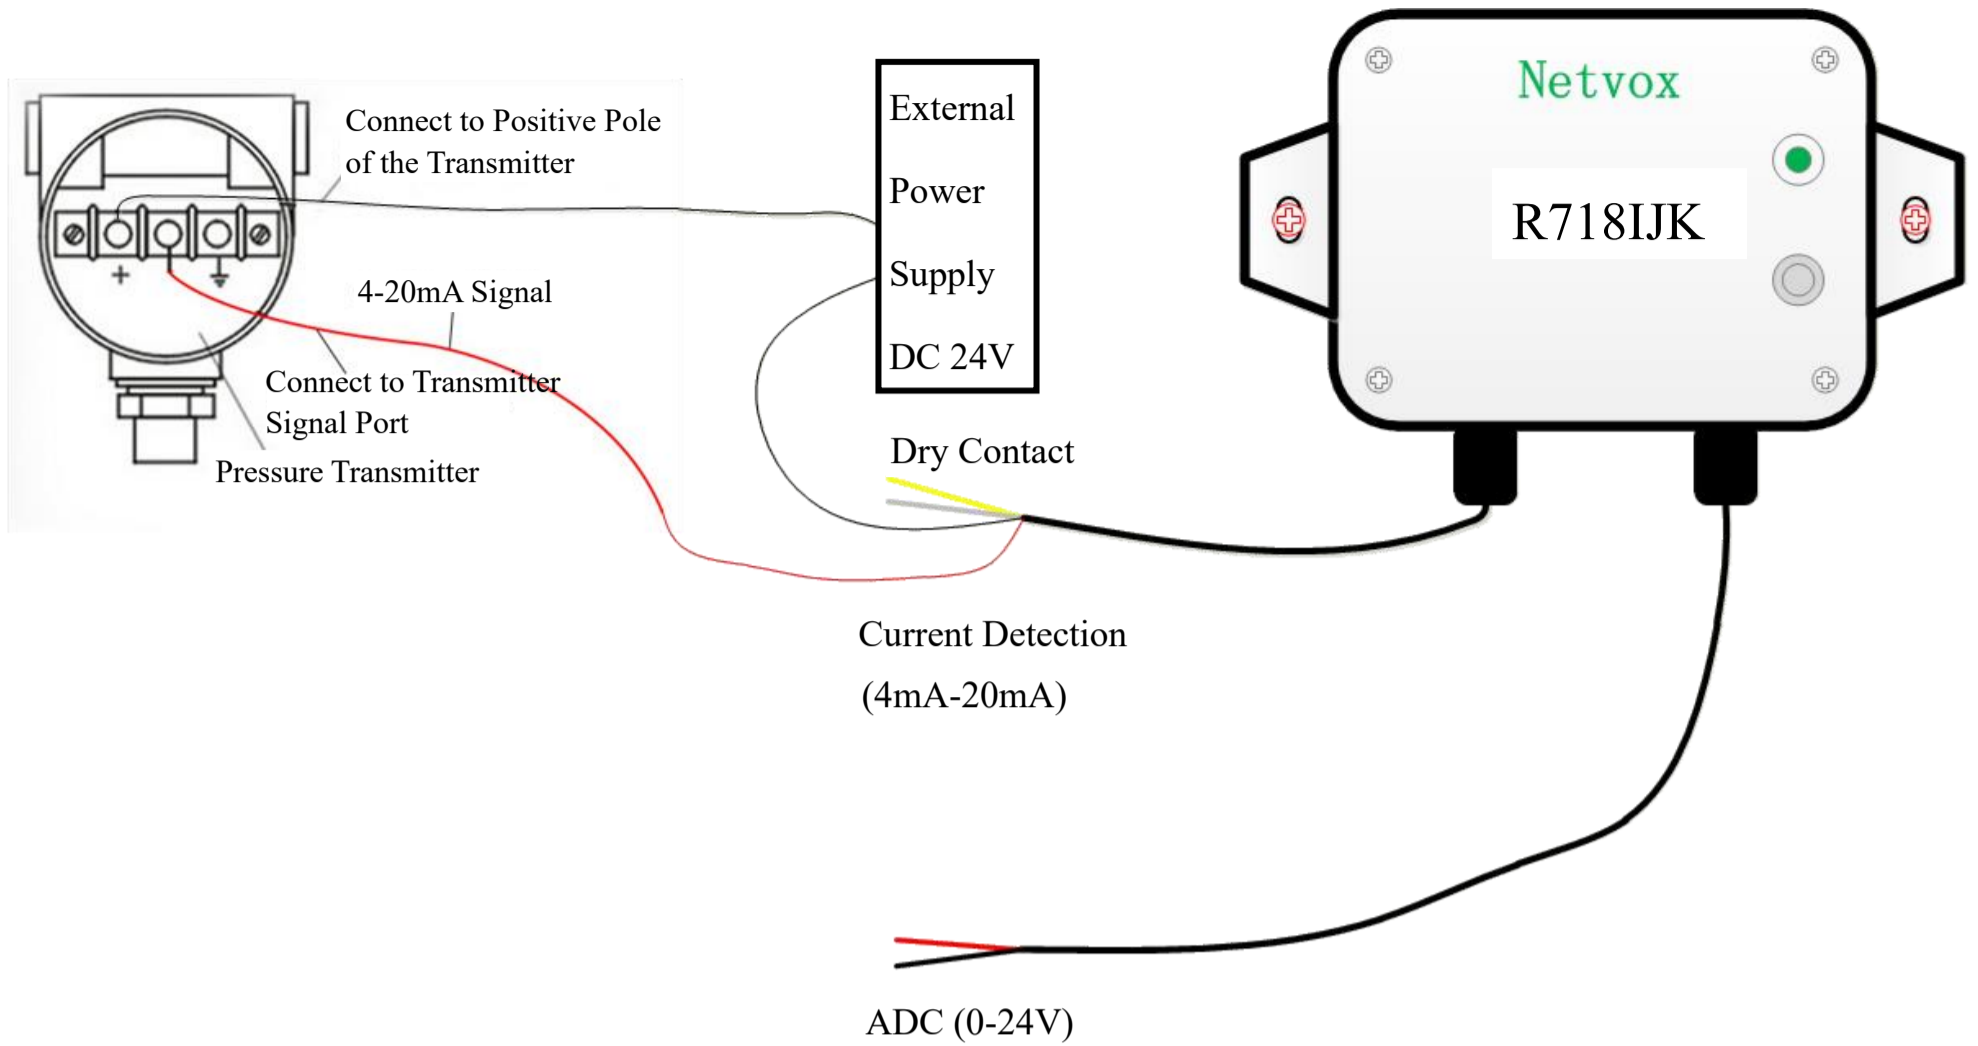
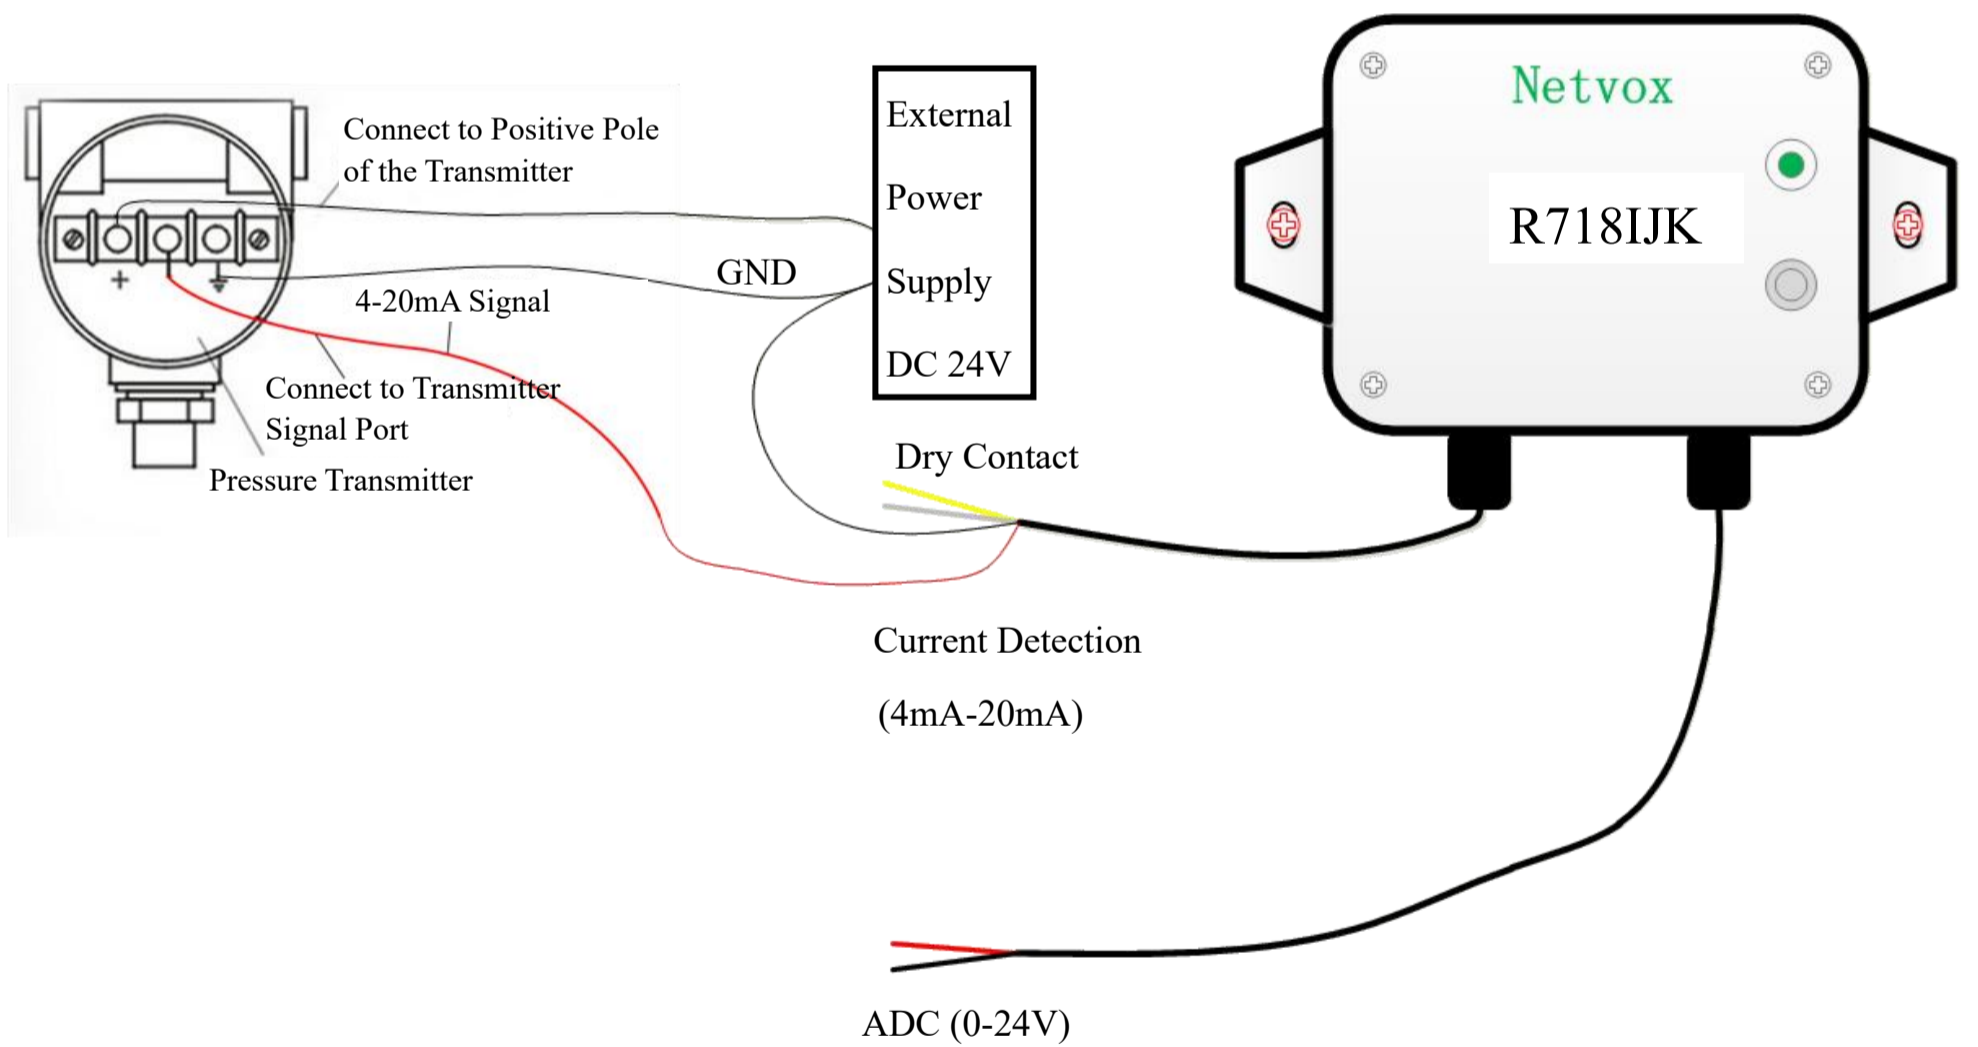

Fig. 3. Current Detection 2-Wire Wiring Diagram
Fig. 4. Current Detection 3-Wire Wiring Diagram
1. The ADC sampling line, dry contact sampling, and current sampling line of R718IJK are respectively connected according to the wiring method of Fig. 1, Fig. 2, Fig. 3 and Fig. 4.
- The wiring method of current detection is divided into 2-wire wiring method and 3-wire wiring method as Fig. 3 and Fig. 4 shown below.